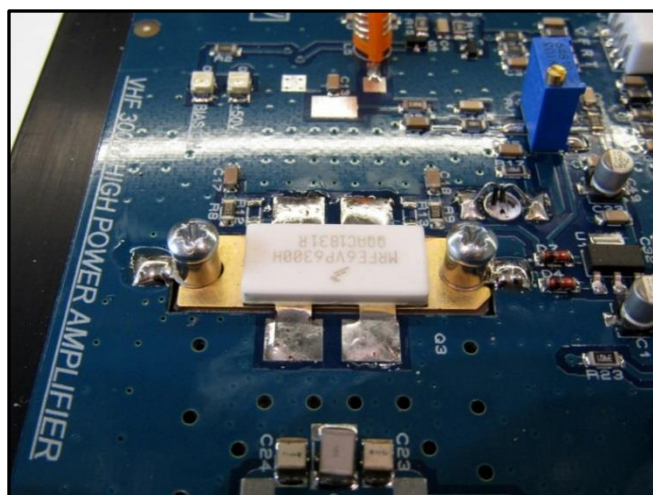

Figure 3: Transistor mounting and earth tag placement.
7. Smear a small amount of heatsink compound on the flange of the RF power transistor and using the 13mm No.4 self-tapping screws, two M3 earth tags and PCB spacers, mount the RF transistor to the heatsink (drain corner-cropped leads to the right). Position the earth tags as shown in figure 3, so they can be soldered to the ground pads near the top and bottom of the transistor. The tags should be trimmed so that they cover the ground pads and don't overhang blue areas of the board or touch other components.